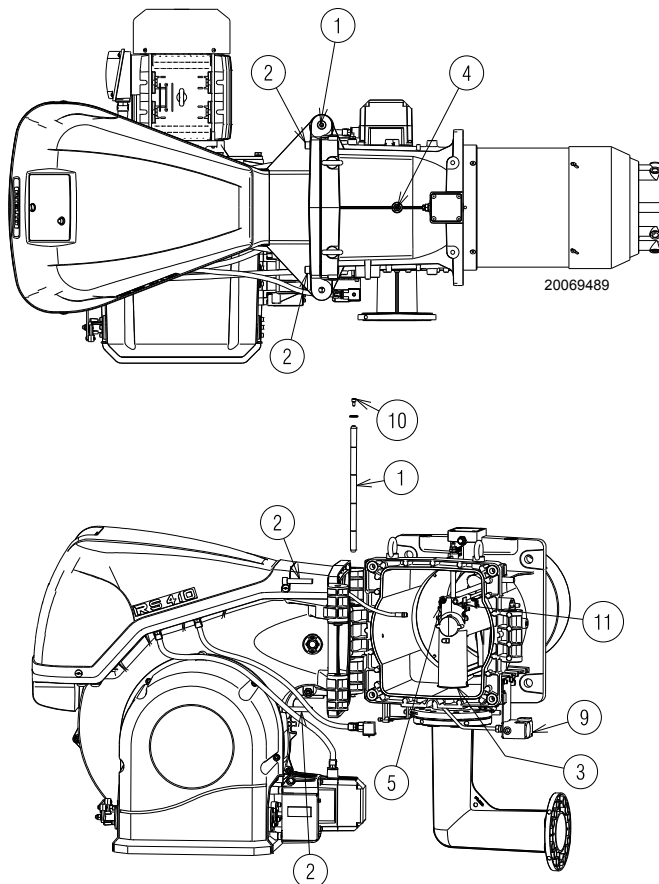

Fig. 14
The burner leaves the factory set for opening to the left, therefore maintaining the pin 1)(Fig. 14) in the housing.
- A** Disconnect the plug/socket 9)(Fig. 14) of the maximum gas pressure switch;
- D** Fully open the burner as in Fig. 14;
To open the burner from the opposite side, before removing the pin 1)(Fig. 14), make sure that the 4 screws 2) are tight. Then shift the pin 1) to the opposite side, only then is it possible to remove the screws 2). Disconnect the socket 9 (Fig. 14) of the maximum gas pressure switch, then proceed as described above at point **C**).